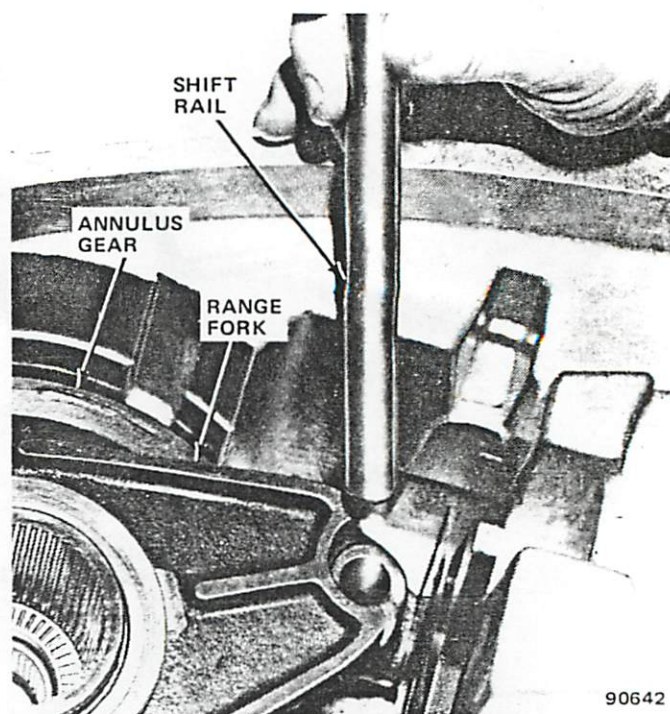

Fig. 2D-38 Annulus Gear and Shift Rail Installation
(20) Install front output shaft front thrust bearing assembly in front case (fig. 2D-16). Correct installation sequence is thick race-thrust bearing-thin race.
(21) Install front output shaft.
(22) Install sprockets and drive chain as assembly. Position sprockets in chain, align sprockets with shafts and install assembly (fig. 2D-15).